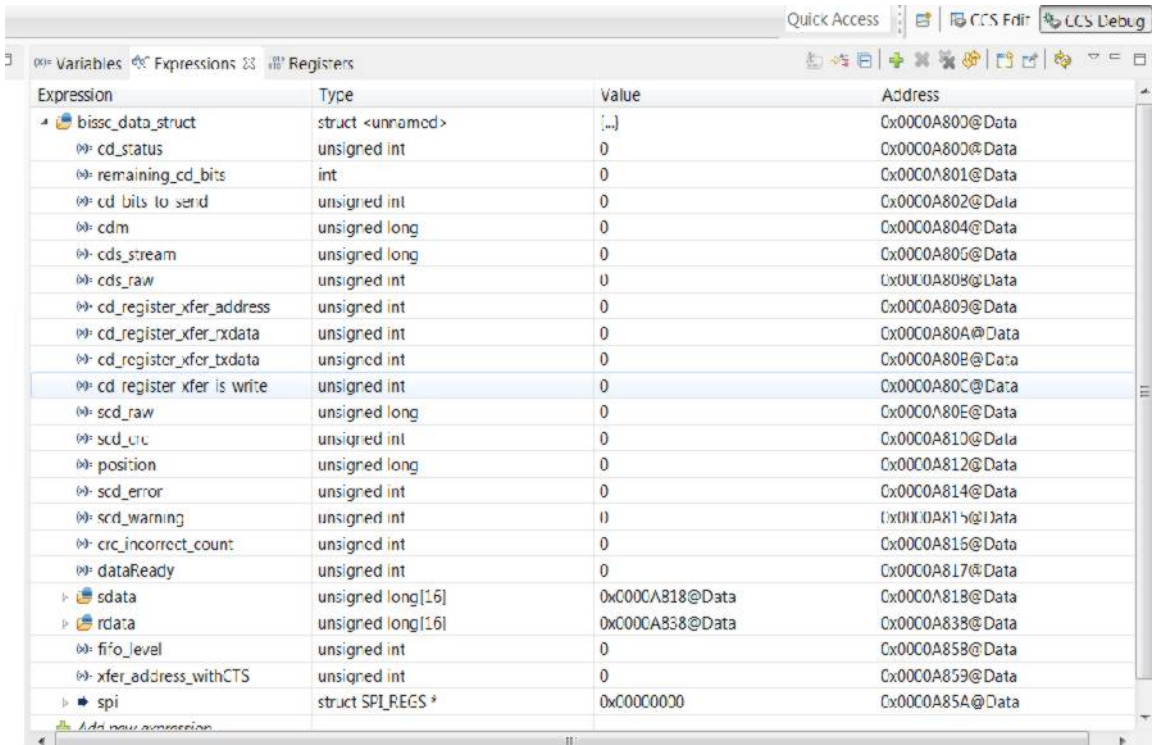

Figure 13. Configuring the Expressions Window
1. Click View → Expressions on the menu bar to open a watch window to view the variables used in the project. Add variables to the watch window, as shown in Figure 13. It uses the number format associated with variables during declaration. Select the desired number format for the variable by right-clicking and choosing it. Figure 13 shows a typical expressions window.